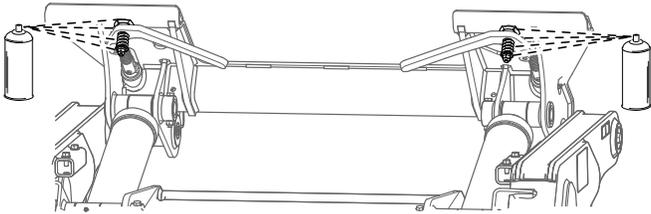

Figure 48
7. Lubricate the quick-attach linkages using spray lubricant (Figure 48).